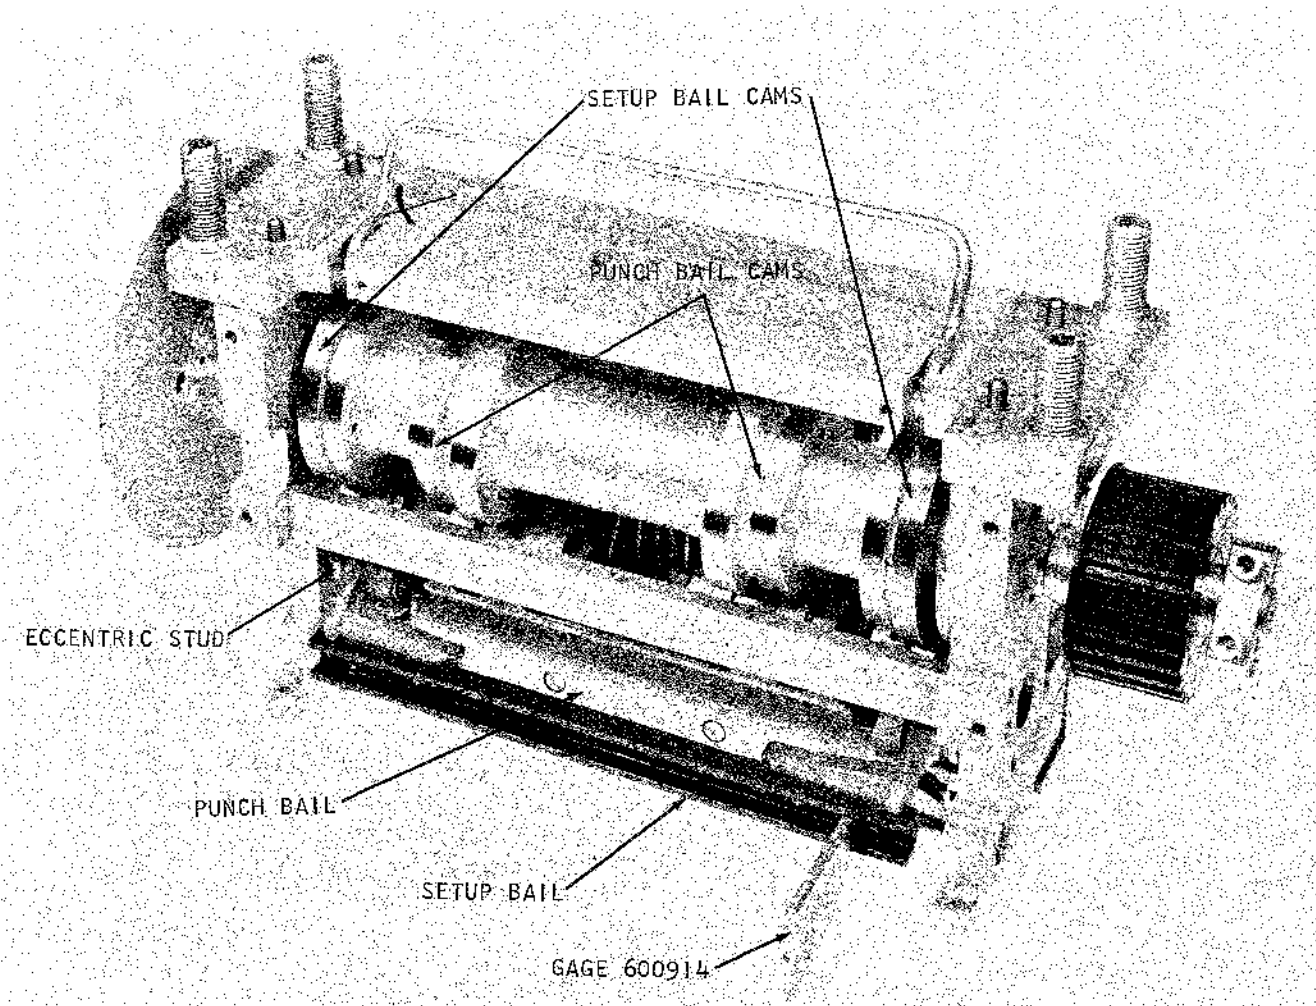

Figure 44. Drive Unit
1. The drive unit (Figure 44)
Cam Follower Assembly Adjustments (Figure 44)
Interposer Setup Bail Adjustments (Figure 44)
5. Turn the punch drive unit cam shaft until the setup bail rests on top of the gage (Figure 44). Make a note of the index setting.